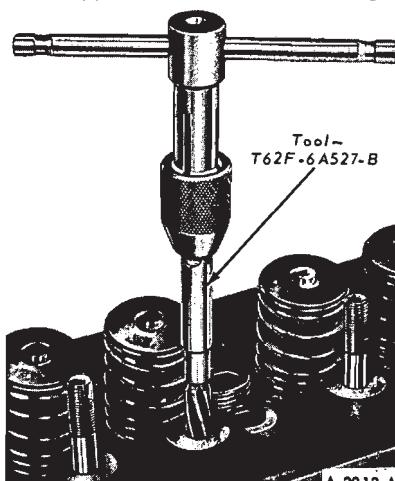

FIG. 20—Reaming Rocker Arm Stud Bore—240 Six, 302-W and 351 V-8
2. If a loose rocker arm stud is being replaced, ream the stud bore using the proper reamer (or reamers in sequence) for the selected oversize stud (Fig. 20). **Make sure the metal particles do not enter the valve area.**